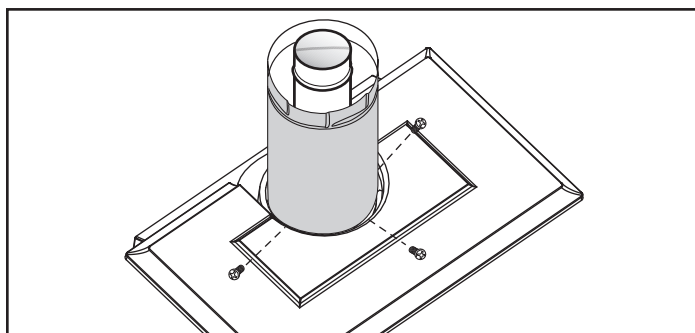

Figure 21 - Simpson DuraVent - install outer adapter pipe.
3. **Install the Outer Adapter Pipe:** Apply a 1/4" bead of cement around the outside surface, about one inch from the crimped end. (Figure 21) Orient the vertical seam to the rear, and insert the crimped end of the outer pipe into the flue collar. Fasten with three sheet metal screws provided.